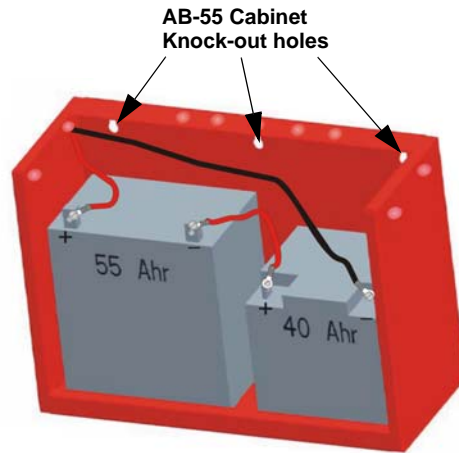

Figure 1.3 Battery Connections in the AB-55 Cabinet
3. Run extended battery cable from control panel cabinet through conduit to AB-55 cabinet. See Figure 1.3.
NOTE: Figure 1.3 is an example of how the wire connections can be routed. However, any other cabinet knock-outs (on either the main control panel or the AB-55 cabinet), that are not previously being used may be utilized to connect conduit between the two cabinets.
4. Connect battery leads to the backup battery terminals. See Figure 1.3. Observe the proper polarity to prevent damage to the batteries or the control panel.
5. Insert the AB-55 cover screws into the cover mounting holes. See Figure 1.3. Screw the cover screw $\frac{3}{4}$ of the way into the cover mounting hole.